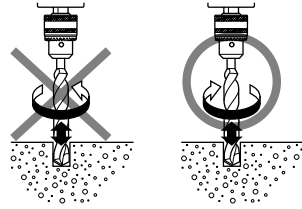

Fig. 1
6. Always use the impact drill with clockwise rotation, when using it as an impact drill. (Fig. 1)